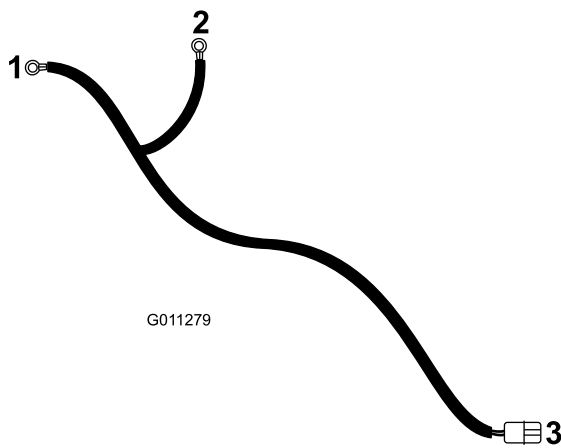
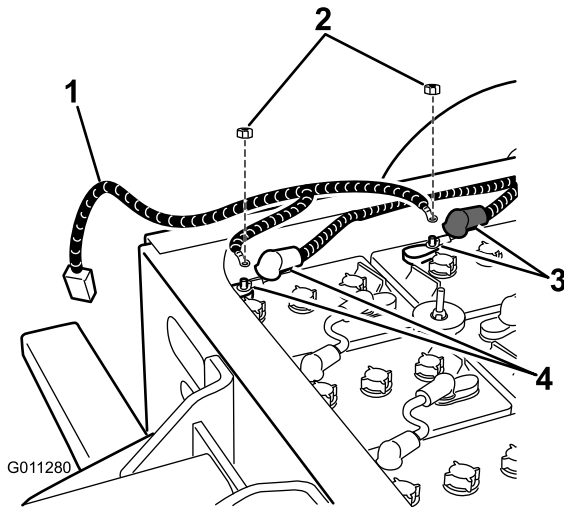

Figure 5
Figure 6
2. Move to the battery array in the frame box. Remove the protective boots from the positive and negative posts (Figure 6). Remove the nuts from the posts. Install the positive ring lead (Figure 5) on the positive battery posts depicted. Install the negative ring lead (Figure 5) on the negative battery post depicted.